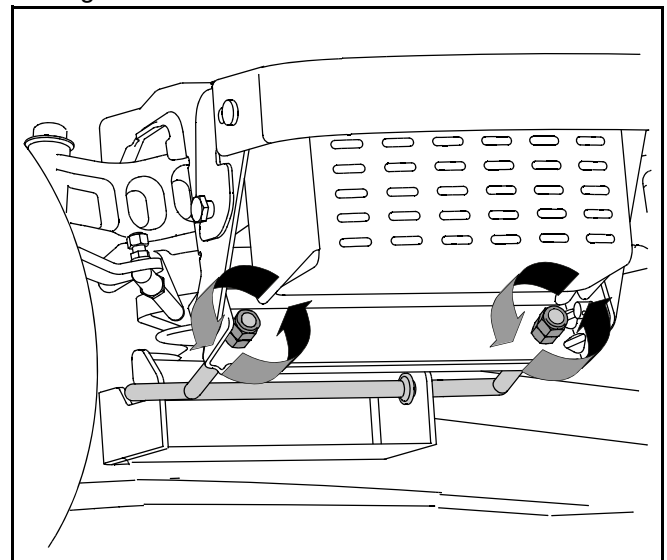

Figure 13
- From the front of the tractor, loosen the outermost hex lock nut on each end of the deck hanger rod. See Figure 13.
- Tighten the inner hex nuts against the front hanger bracket to raise the front of the deck; loosen the inner hex nuts to lower the front of the deck. See Figure 13.